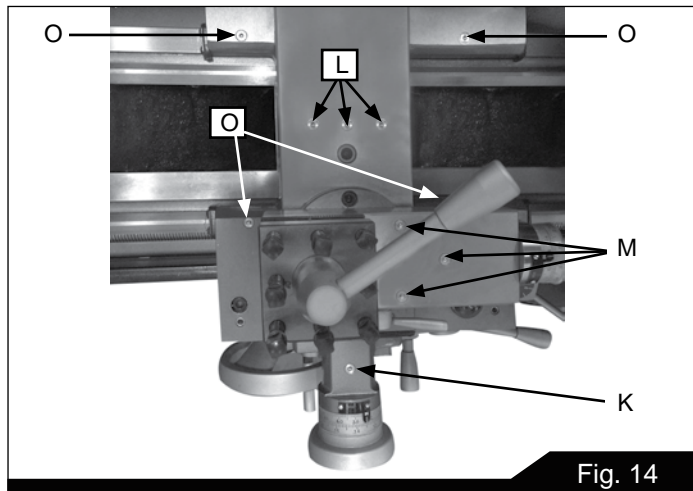

Fig. 14
1. Cross Slide – Daily lubricate one ball oiler on the handwheel housing (K, Figure 14) and three ball oilers on the platform (L, Figure 14).
2. Compound Rest – Daily lubricate three ball oilers (M, Figure 14) on top of compound rest.
4. Saddle – Daily lubricate four ball oilers (O, Figure 14).